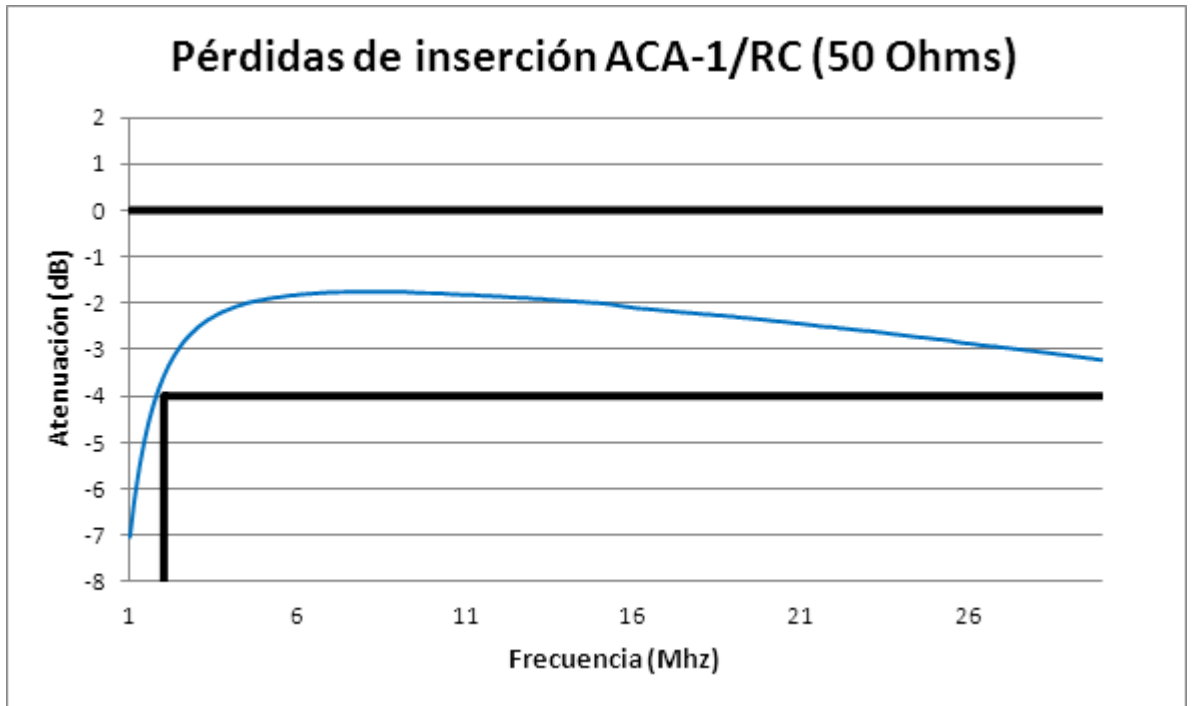

Figure 6 Insertion losses (dB/MHz) for 50 Ω line impedance
Insertion losses (3) See graph in Figure 6